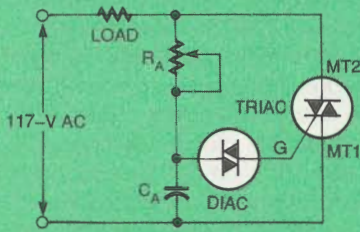

Fig. 1. A typical phase-control Triac circuit. Adjusting the resistance of  $R_A$  changes the time it takes to charge up  $C_A$ , and fire the diac.
**About the Circuit.** The heart of the blower speed control is the phase-controlled Triac circuit illustrated in Fig. 1. During each AC half-cycle, capacitor  $C_A$  is charged through adjustable